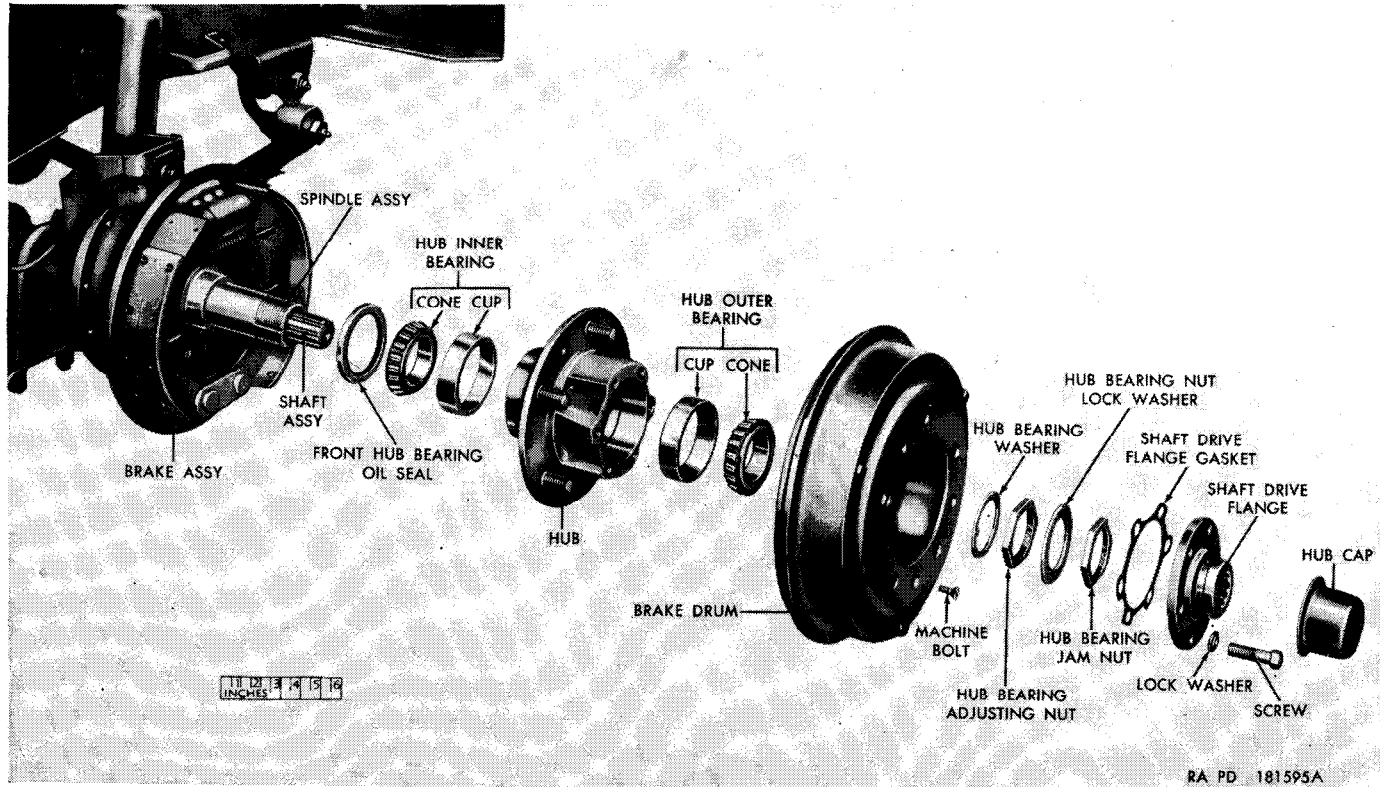
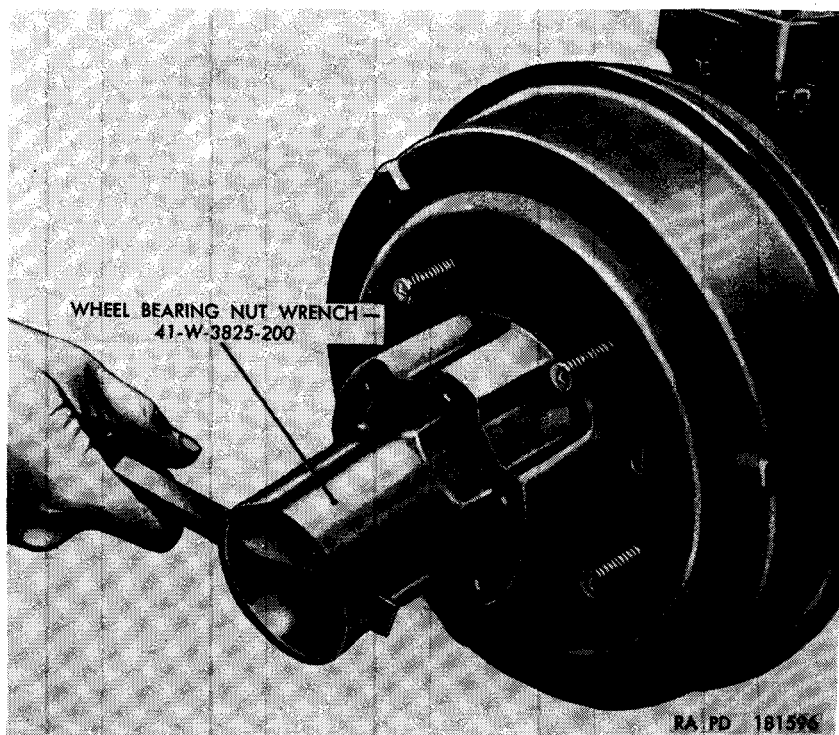
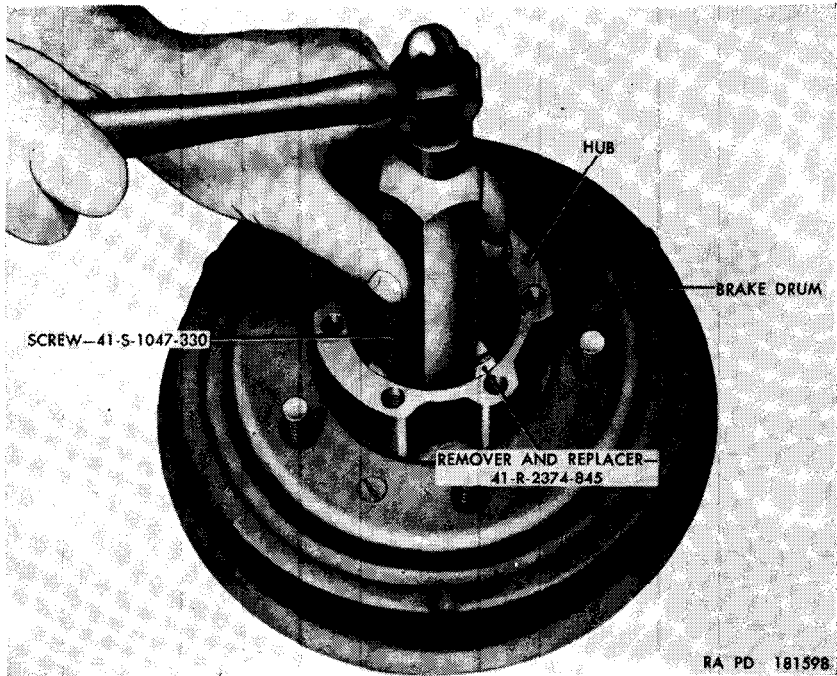

Figure 99. Front axle assembly—partially exploded view.
Figure 100. Removing front hub bearing jamnut.
Figure 102. Removing front hub bearing cup with remover and replacer 41-R-2374-845 and screw 41-S-1047-330.
- (1) The removal procedures contained in this paragraph apply to either left or right axle shaft assemblies.
- (2) Place the front wheels in the straight ahead position.
- (3) Place a jack under the front axle and raise the vehicle until the tires clear the ground. Place safety stands or suitable blocking under the axle to support the weight of the vehicle.
- (4) Pry off the hub cap and remove the six screws and lock-washers securing the shaft drive flange to the hub (fig. 99).
- (5) Install a suitable puller over the lip of the shaft drive flange and pull the flange off the axle shaft assembly. Separate the shaft drive flange gasket from the shaft drive flange (fig. 99).
- (6) Remove the wheel (par. 228).
- (7) Remove the brake drum (par. 228).
- (8) Straighten the lip of the hub bearing nut lockwasher (fig. 99) to clear the hub bearing jamnut (fig. 99). Position wheel bearing nut wrench 41-W-3825-200 (fig. 100) on the jamnut and unscrew the nut from the spindle assembly (fig. 99). Slide the bearing nut lockwasher (fig. 99) off the spindle assembly.
- (9) Position the wheel bearing nut wrench 41-W-3825-200 (fig. 100) on the hub bearing adjusting nut and unscrew the nut from the spindle assembly. Slide the hub bearing washer off the spindle assembly (fig. 99).
- (10) Pull the hub from the spindle assembly. Lift the hub outer bearing cone out of the hub (fig. 99). The hub outer bearing cup will remain in the hub.
- (4) Position the hub (fig. 99) on the spindle. Insert the hub outer bearing cone (fig. 99) into the hub, with the small end of the bearing taper facing toward the vehicle. Slide the hub and bearing on the spindle until hub seats against the spindle shoulder. Work the hub up and down on spindle and, at the same time, press bearing cone into position in hub.
- (5) Position the brake drum on the hub with the bolt holes in the drum and hub aligned. Install the three $\frac{1}{4} \times \frac{5}{8}$ bolts (fig. 99).
- (6) Position hub bearing washer on the spindle shaft, aligning the tang on the washer with the slot in the shaft, and slide washer onto shaft. Screw hub bearing adjusting nut (fig. 99) onto the spindle shaft fingertight.
- (8) Position the hub bearing nut lockwasher on the spindle shaft, alining the tang on the washer with the slot in the shaft, and slide washer onto shaft. Screw hub bearing jamnut (fig. 97) on the spindle shaft and tighten with wheel bearing nut wrench 41-W-3825-200 (fig. 100). Bend lip of lockwasher over wheel bearing housing adjusting and jamnuts.
- (9) Apply a little grease to the gasket surface of the shaft drive flange. Position a new shaft drive flange gasket (fig. 99) on the drive flange, alining the mounting holes in the gasket with the mounting holes in the flange.
- (10) Position the shaft drive flange and gasket on the shaft assembly, alining the splines in the flange with the splines in the shaft. With a soft mallet, tap flange and gasket part way onto the shaft. Rotate the hub and drum until the mounting holes in the drive flange aline with the mounting holes in the hub. Tap drive flange completely onto shaft and secure to hub with six $\frac{3}{8}$ -inch lockwashers and $\frac{3}{8} \times 2\frac{1}{2}$ screws (fig. 99).
- (1) Perform the operations outlined in paragraph 224a.
- (2) Lift the hub outer bearing cone (fig. 99) out of the hub.
- (3) Remove the hub inner bearing cone and drive the hub bearing oil seal (fig. 99) out of the hub.
- (4) Position remover and replacer 41-R-2374-845 and screw 41-S-1047-330 (fig. 102) in the hub and drive out hub inner bearing cup. Reverse the hub, position remover and replacer 41-R-2374-845 and screw 41-S-1047-330 in hub and drive out hub outer bearing cup.
- (1) Position the hub outer bearing cup (fig. 99) in the brake drum side of the hub. Install the remover and replacer 41-R-2374-845 and screw 41-S-1047-330 (fig. 102) in the hub and drive cup into position.
- (2) Position the hub inner bearing cup (fig. 99) in the brake assembly side of the hub. Install the remover and replacer 41-R-2374-845 and screw 41-S-1047-330 (fig. 102) in the hub and drive cup into position.
- (3) Position the hub inner bearing cone (fig. 99) in the hub with the small end of the bearing cone taper facing toward the brake drum.
- (4) Place a new hub bearing oil seal (fig. 99) in the brake assembly side of the hub (fig. 99) with the lip of the seal facing the hub inner bearing cone. With a soft mallet, tap the seal into the hub until it is flush with the hub.
- (5) Perform operations as outlined in paragraph 224b.
a. Removal. Jack up the vehicle until the tire clears the ground. Remove the five hub nuts (nuts on left wheels are threaded left hand and those on right wheels are threaded right hand). Pull the wheel off the hub and studs. Unscrew the three bolts (fig. 99) and pull the drum from the hub.